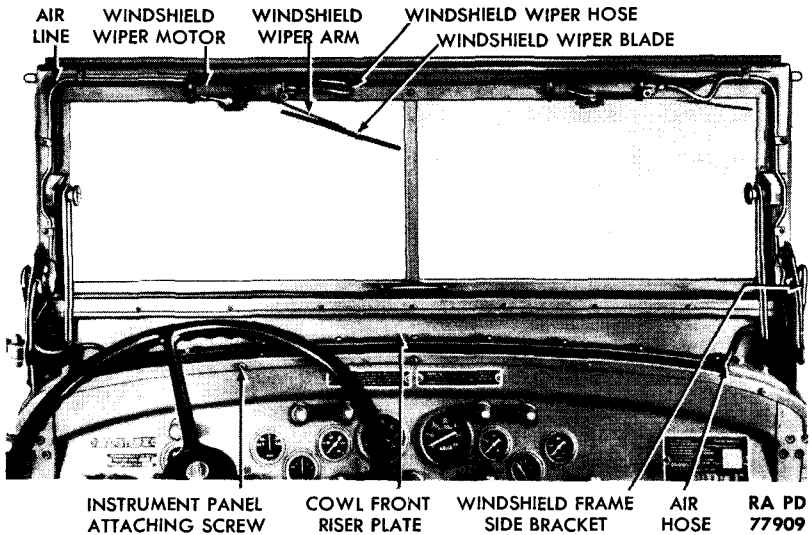

Figure 90 – Windshield Installed
(1) **DESCRIPTION (fig. 90).** A wiper is mounted at top center of each half of the divided windshield with an air-operated motor for each wiper supported by a bracket attached to the inside top of the windshield frame. The power of the motor is transmitted through a shaft extending from the motor to a wiper arm with movable blade attached outside the windshield. The operation of the wipers is controlled by two valves attached to the instrument panel (fig. 3).
b. Maintenance (fig. 90). Check air lines for plugged line or fittings, kinked hose or tubing, and leaks. Tighten all connections. Lubricate seal felts around shaft with light engine oil regularly. If wiper fails to operate after line has been thoroughly checked, replace motor assembly. Replace worn wiper blades.
c. Removal (fig. 90). Disconnect hose from air line. Remove the arm nut which secures wiper arm to motor shaft, and remove arm and blade as a unit. Remove the two screws and lock washers which secure motor bracket to windshield frame, and remove motor assembly.
d. Installation (fig. 90). Position wiper motor assembly on windshield frame, and secure with the two screws and lock washers. Position wiper arm to motor shaft, and secure with lock washer and nut. Connect hose to tube.
a. Description (fig. 90). The windshield is attached at the top rear of the cowl assembly with manually operated quadrant arms controlling opening of the windshield from the bottom outward.
b. Removal (fig. 90). Disconnect air hose front tube at each side of windshield. Remove the five hex cap screws and lock washers which
c. **Installation** (fig. 90). Position windshield assembly on cowl. Secure brackets to cowl with the 10 hex cap screws and lock washers. Install the 2 bolts, lock washers, and nuts which secure brackets to cowl front riser plate.